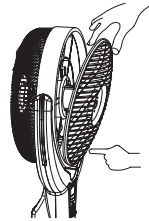

Figure 11.
- b) Lightly push the bottom of the front guard and pull out the guard from the top. (Figure 11)